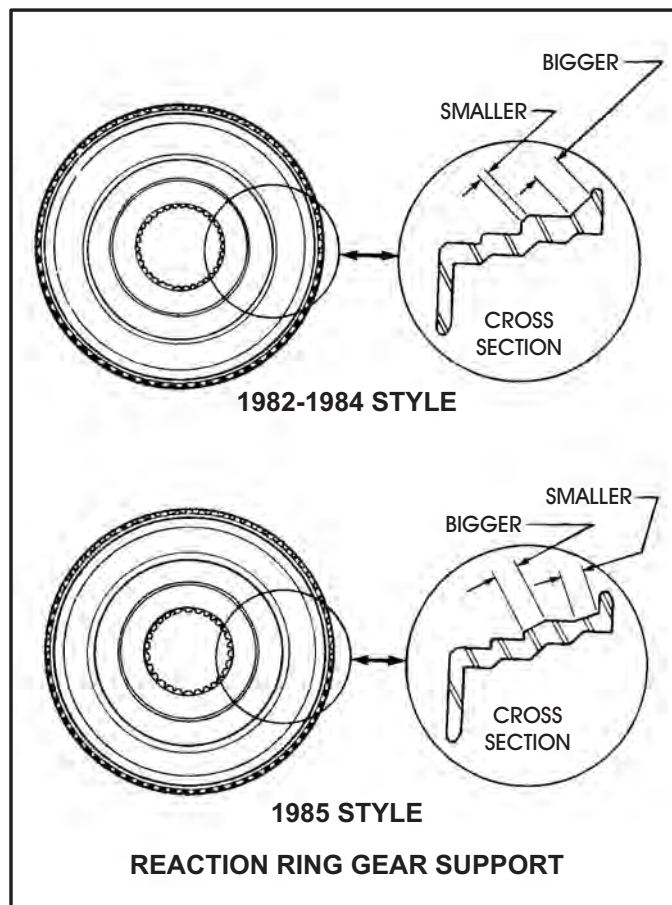

Figure 14
- (2) REACTION RING GEAR SUPPORT - Machining process modified to accommodate the added oil deflector on the reaction carrier, as shown in Figure 14.